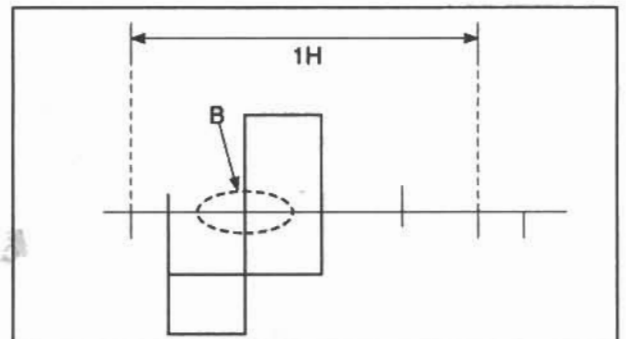

Fig. 5
3. Adjust VR302 so that waveform "B" may be the same as shown in Fig. 5.